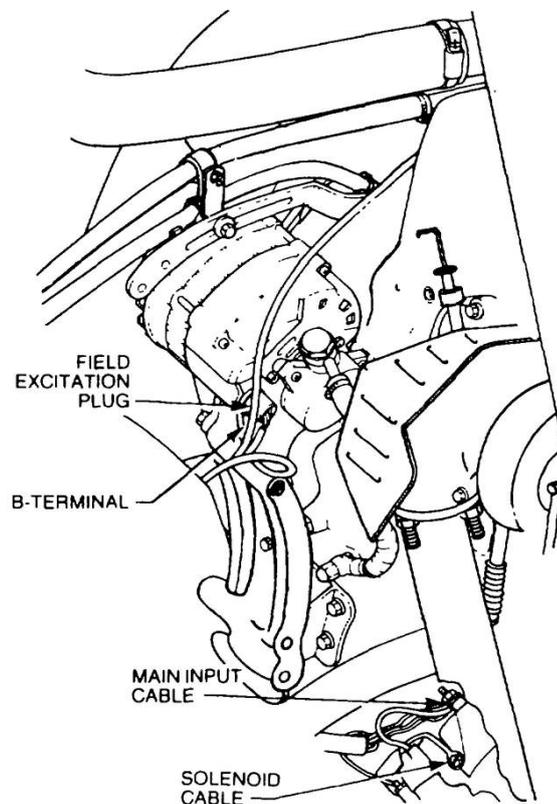

Figure 9 Removal of the Alternator and Starter Motor Cables
- r. Remove the field excitation plug from the alternator (Figure 9) and remove the nut securing the cable to the B-terminal of the alternator. Remove the wire from the terminal and then reinstall the nut.
- s. Remove the nut securing the main input cable to the starter motor (Figure 9), remove the cable and reinstall the nut. Loosen the screw securing the cable to the starter motor solenoid and remove the cable.